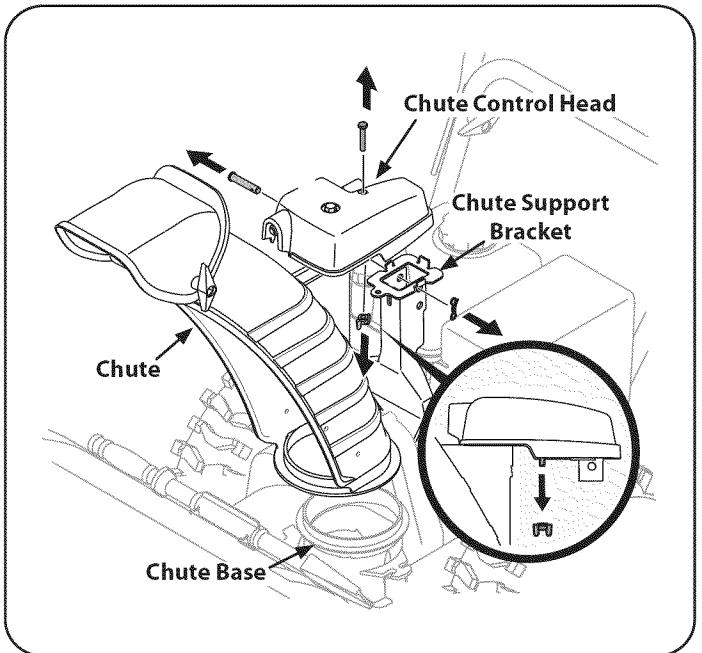

Figure 3
4. Remove wing nut and hex screw from chute control head and clevis pin and cotter pin from chute support bracket. Position chute (forward-facing) over chute base. See Figure 3.